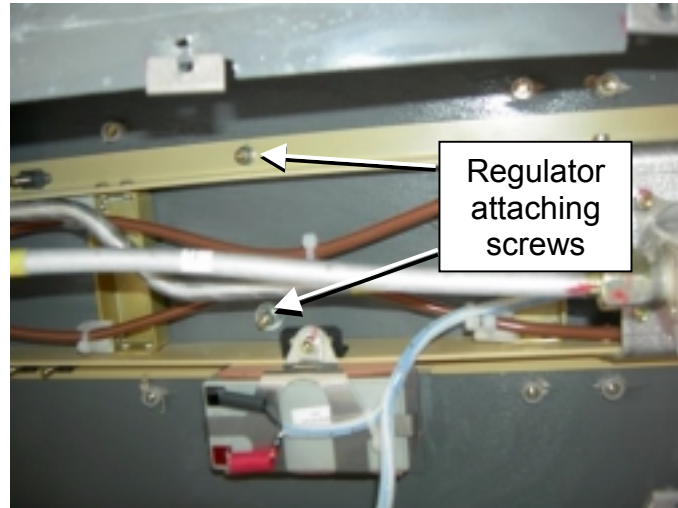

Fig. 24-2g
- (3) Remove the two attaching screws of the regulator (see fig. 24-2g). Locate the position of the washers (large one on the wooden area).